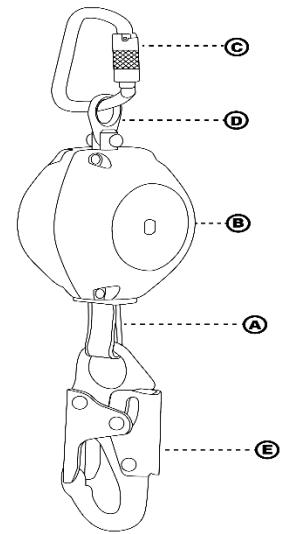

Figure 1: Key components of webbing SRL
**3.1 KEY COMPONENTS:** Refer to Figure 1 for identification of key components of Self-Retracting Lanyards. Bashlin SRL's are drum wound Webbing Lifelines (A) that retract into a Nylon or Aluminum Housing (B). The Swivel Eye (D) on top of the SRL allows units to hang from anchorage by an attached Carabiner (C). The SRL is attached to the Fall Arrest connection on a Full Body Harness via a self-locking snap hook (E) on the end of the Lifeline.